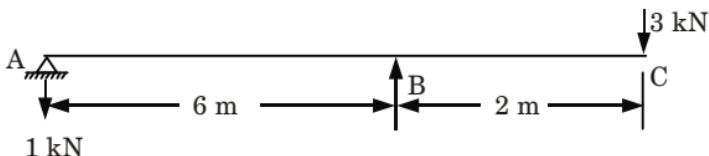

Fig. 49.
- b. Determine the vertical deflection at the free end and rotation at A in the overhanging beam shown in Fig. 49. Assume constant  $EI$ . Use Castigliano's method.